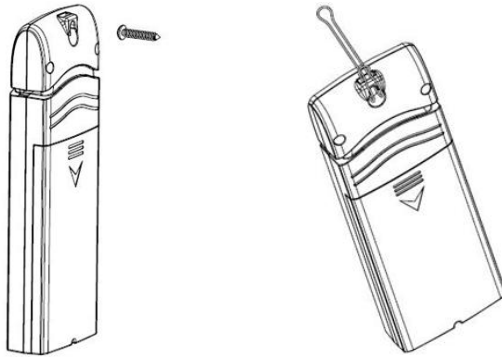

Figure 13: Indoor sensor mounting
- Use a screw or nail to affix the remote sensor to the wall, as shown on the left side of Figure 13, or
- Hang the remote sensor using a string, as shown in right side of Figure 13